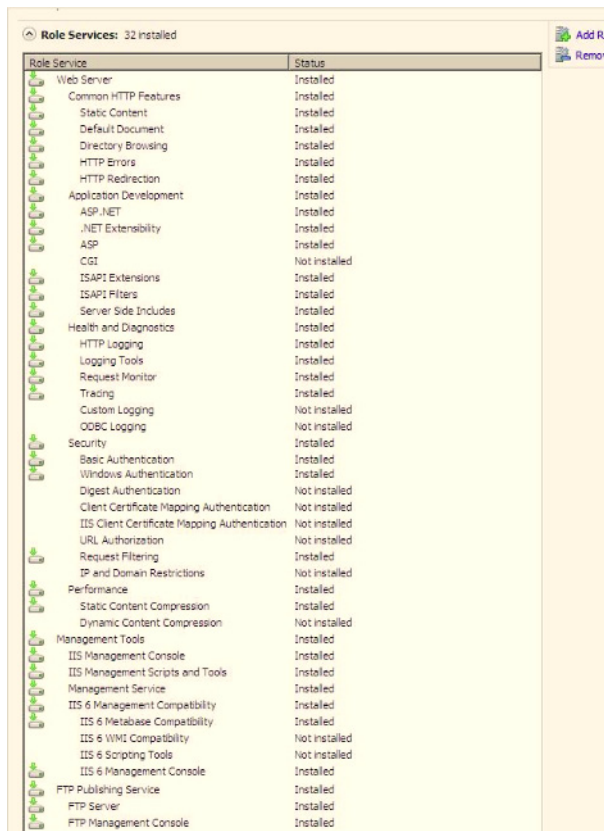

Figure 10. Configuring IIS Components on Windows 2008 Server.
13. Make the settings as shown in Figure 10. For detailed instructions for making the settings continue with Step 14.